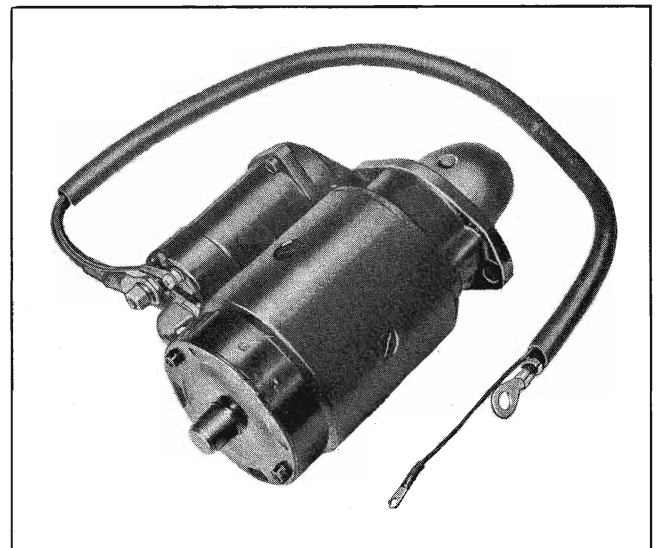

Fig. 11-47 Wires and Cables Connected to Solenoid
1. Connect battery cable and solenoid wires to solenoid as shown in Fig. 11-47.